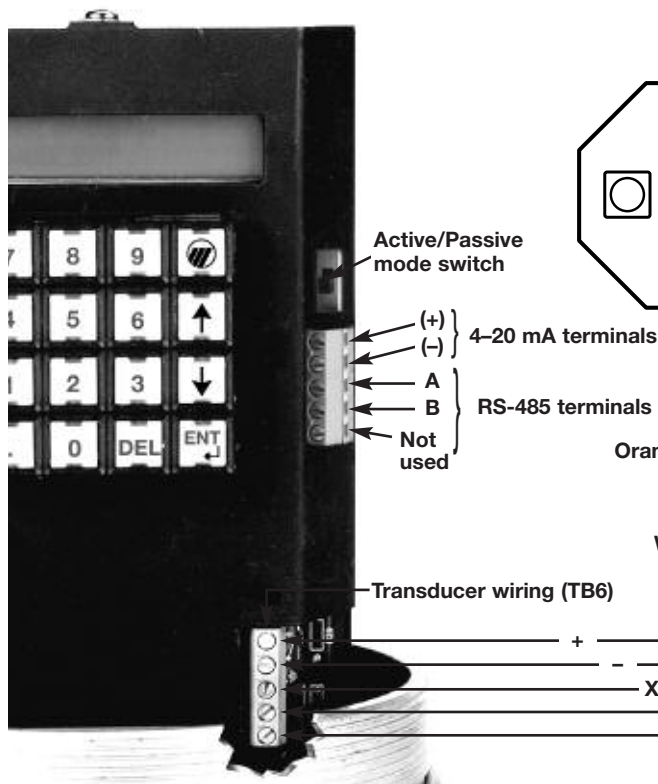

Figure 5
The transducer cable consists of two twisted pairs of wire, wrapped with a shield. Each wire is labeled for identification. Refer to Figures 5 and 6.
If transducer housing is provided, use the connecting cable ordered with the remote transducer housing. Connect the transducer cable between the terminal block in the transducer housing to TB6 in the transmitter. Be sure to connect wires to appropriate terminals. Refer to Figures 5 and 6 on page 8.
A shielded twisted pair should be used for the 4–20 mA output. The + and – connections are made at the terminal block to the right of the 16-button keypad as shown in Figure 5 on page 8. The shield is connected with a female disconnect to a connector located in the housing base, just below the sensor connections. The loop is optically isolated, has non-grounded outputs, and can drive a 1000 Ω load.
NOTE: The output may be either an active or passive 4–20 mA. If passive mode, customer must provide loop power. Figure 5 on page 8 shows the Active/Passive mode switch.
A shielded twisted pair should be used for the RS-485 wiring. The “A” and “B” connections are made at the terminal block to the right of the 16-button keypad as shown in Figure 5 on page 8. The shield is connected with a female disconnect to a connector located in the housing base, just below the sensor connections.
4. Connect the “A” wire from the control room converter to the terminal marked “A” on the RS-485 terminal block located to the right of the 16-button keypad as shown in Figure 5.
5. Connect the “B” wire from the control room converter to the terminal marked “B” on the RS-485 terminal block located to the right of the 16-button keypad as shown in Figure 5.